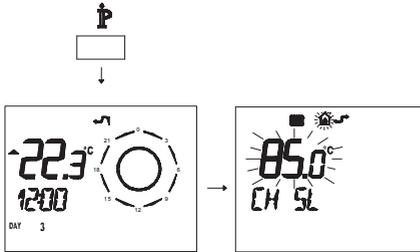

Fig. 7.25
- Press button **IP** for more than 3 seconds to enter in **INFO** (Fig. 7.25) mode.